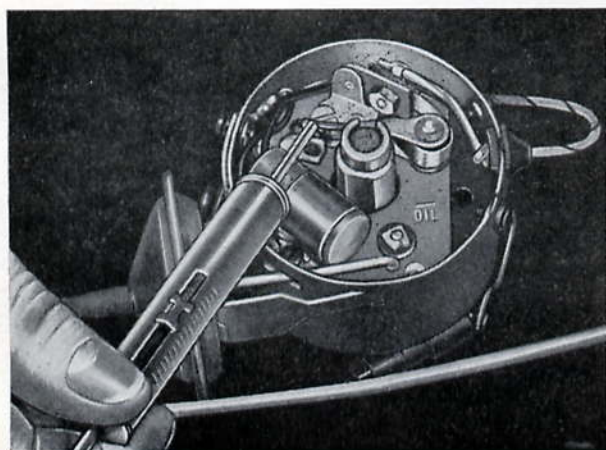

Fig. R.11. Checking the tension of the circuit breaker moving contact spring
2. Check the tension of the circuit breaker moving contact spring with a small spring balance (Fig. R.11). The reading must be taken just as the